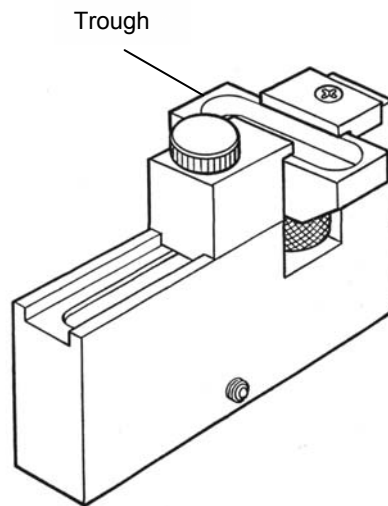

Figure 11 • The Trough Liquid Cell
- Replace the sample plate with the trough liquid cell (Figure 11).